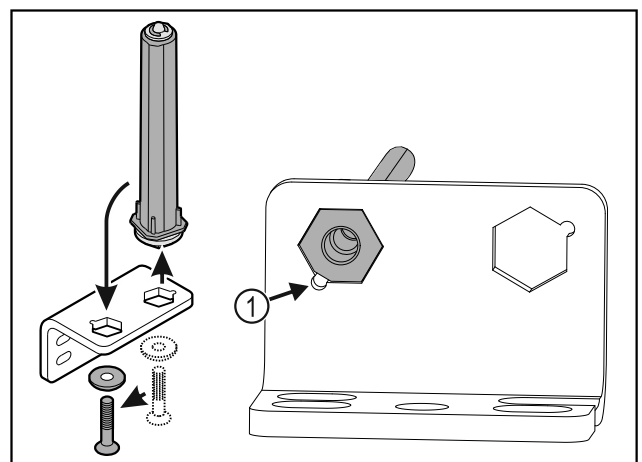

Fig. 39
- Make sure the pin chamfer Fig. 39 (1) faces the round hole when you put it in.